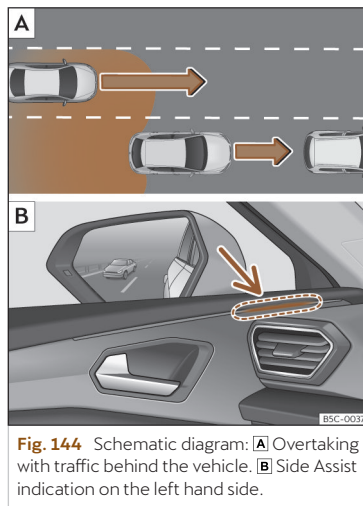
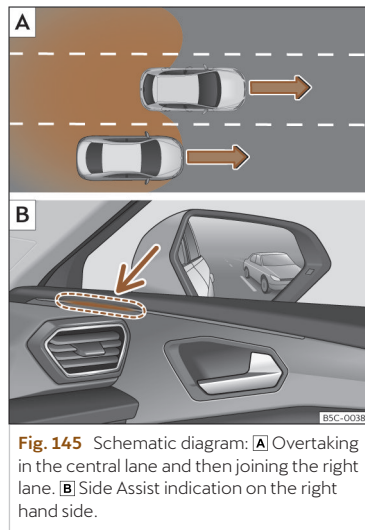

Fig. 144 Schematic diagram: **[A]** Overtaking with traffic behind the vehicle. **[B]** Side Assist indication on the left hand side.
Fig. 145 Schematic diagram: **[A]** Overtaking in the central lane and then joining the right lane. **[B]** Side Assist indication on the right hand side.
In the following situations, an indication will be displayed in the control lamp >>> **Fig. 144 [B]** (arrow) or >>> **Fig. 145 [B]** (arrow):
- When being overtaken by another vehicle >>> **Fig. 144 [A]**.
- When passing another vehicle >>> **Fig. 145 [A]** with a speed differential of approx. 10 km/h (6 mph). If the vehicle is passing at a considerably higher speed, no indication will be displayed.